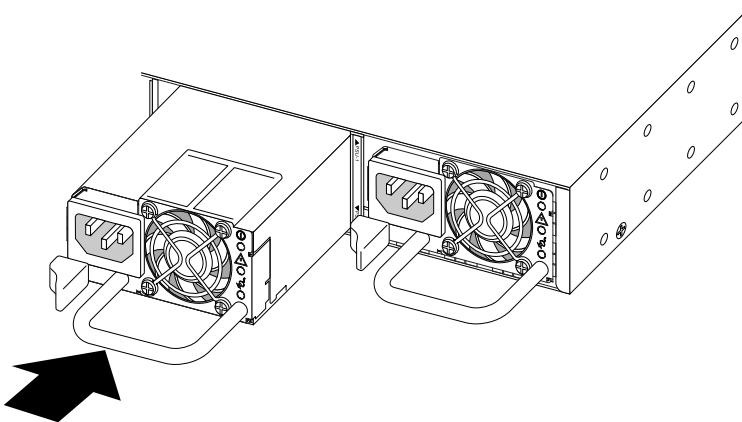

Figure 262: Installing a Power Supply
- 4 Verify that the power supply is right side up, with the latching tab at the left of the unit (see Figure 262: Installing a Power Supply on page 290).
- 5 Carefully slide the power supply all the way into the power supply bay (see Figure 262: Installing a Power Supply on page 290).